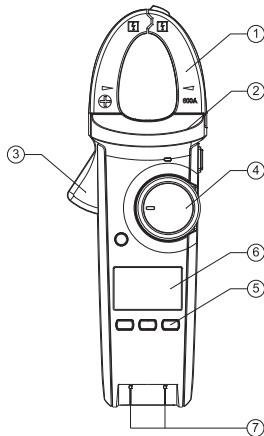

Figure 1
V. External Construction (See Figure 1)